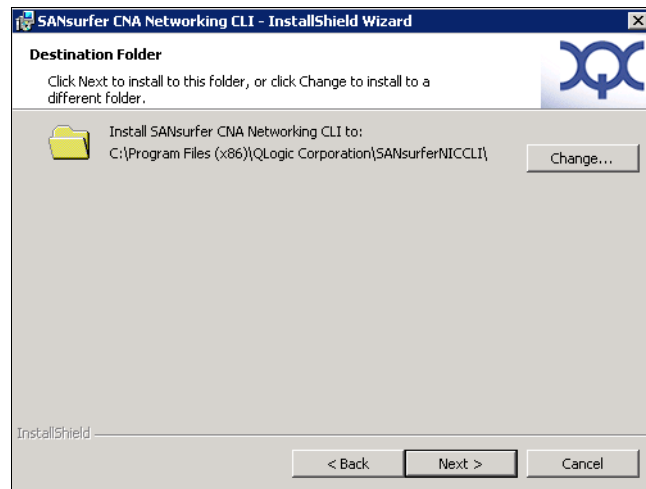

Figure 7-75 Destination Folder panel
4. In the Destination Folder panel (Figure 7-75), confirm the default path, and then click **Next**.